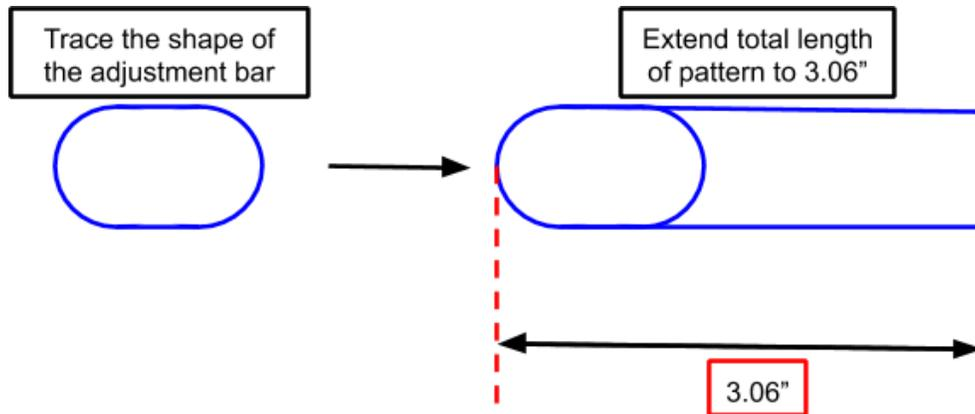
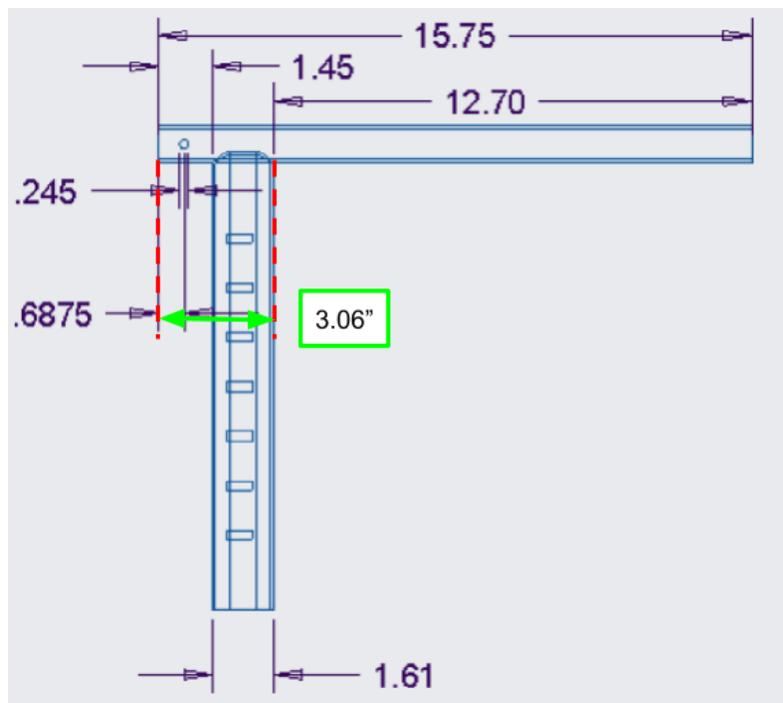

Figure 21. An illustration of the handlebar grip pattern
Figure 22. A close-up of the straight handlebar engineering drawing, showing where the 3.06" dimension for the pattern comes from.
- b. Extend the length of this trace to a length of about 3.06", as seen in Figure 21. This 3.06" length accounts for the length from the back of the handlebar tubing to the front of the adjustment bar, as seen in Figure 22.